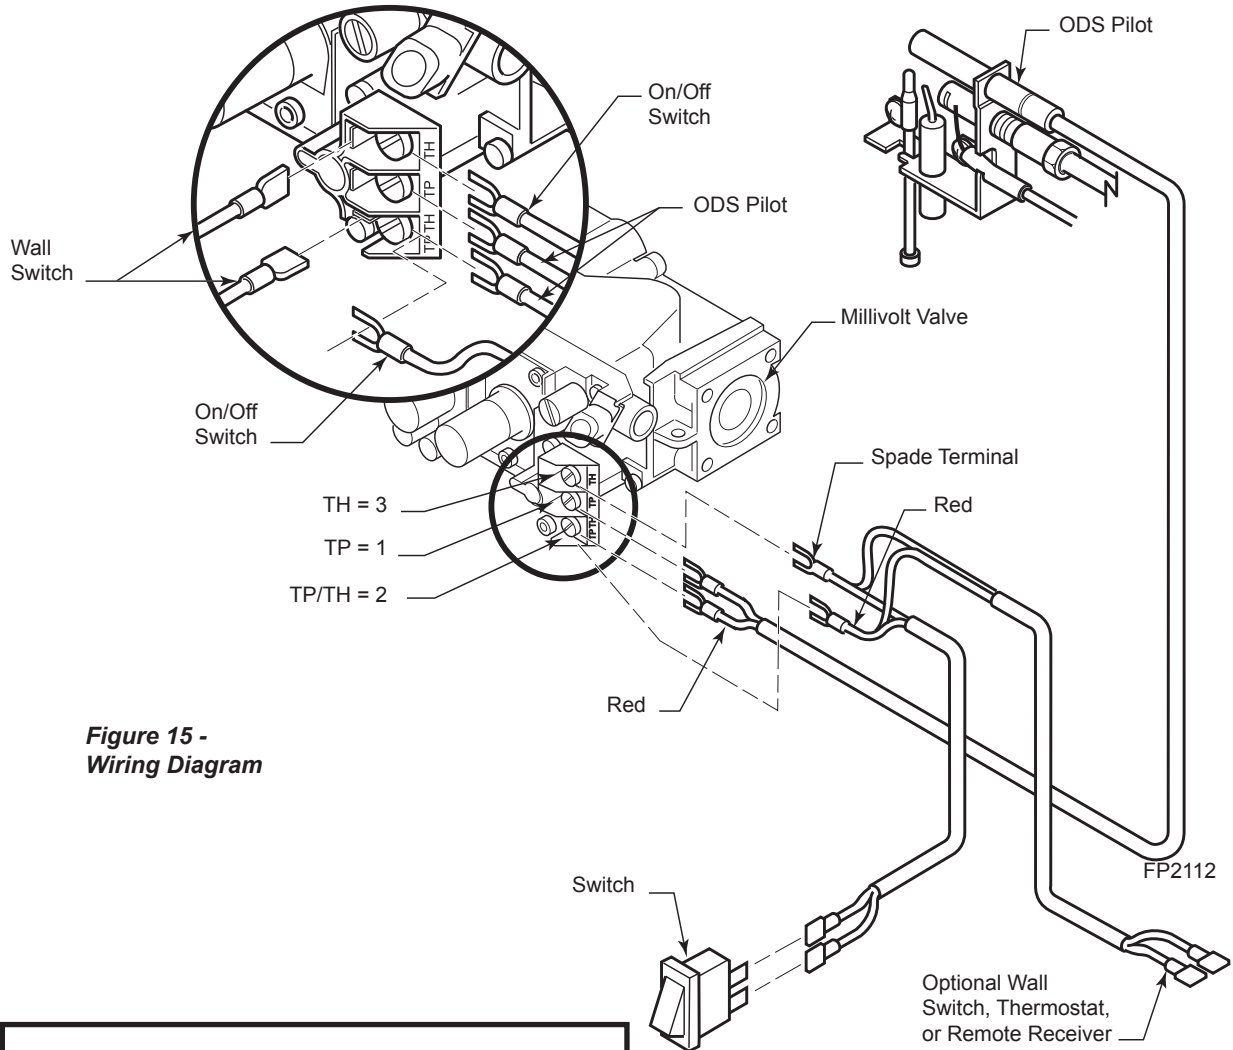

**Figure 14 -
5. To check gas pressures at valve, turn captured screw counter clockwise 2 or 3 turns and then place tubing to pressure gauge over test point. Turn unit to high. *Figure 14* After taking pressure reading, be sure and turn captured screw clockwise firmly to reseal. Do not over torque. Check test points for gas leaks.